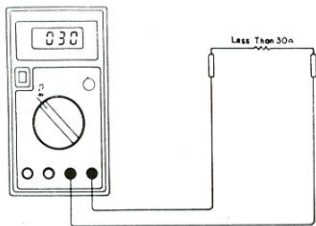

Fig. 5-7. Audible Continuity test
2. Set the FUNCTION switch to the  $\text{🎵}$  range (same  $\text{➡}$  range) and connect the test leads across the resistance under measurement. See Fig. 5-7.